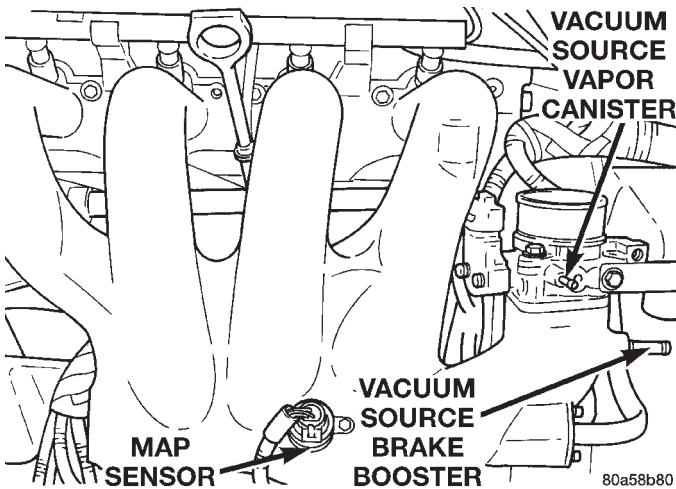

Fig. 14 Manifold Absolute Pressure (MAP) Vapor Canister and Brake Booster Hoses
(9) Disconnect intake air temperature electrical connector. Disconnect leak detection pump and PCV hoses (Fig. 14)
(10) Remove transmission to throttle body support bracket fasteners at the throttle body and loosen the fastener at the transmission end.